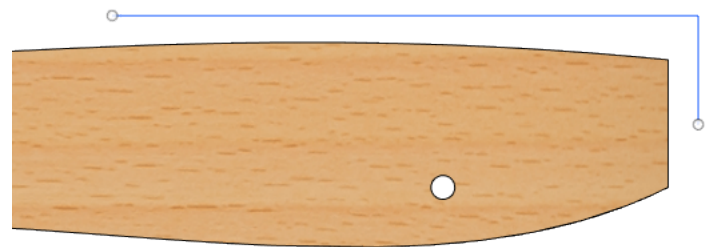

Fig. 25
Step 3. Click **Line**  (L) on the toolbar.
Step 4. Sketch a horizontal and vertical line off the rear end of body, **Fig. 25**.